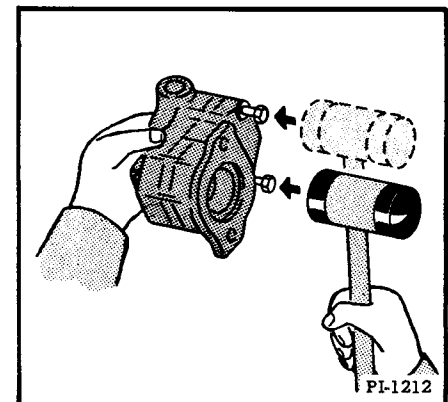

Fig. 29 Separating Pump Plates
(5) Replace two screws in the shaft side and turn them in several turns by hand (Fig. 29). Tap sharply on the heads of the two screws, alternating between them (Fig. 29). When the dowels are disengaged, remove the screws and separate the plates.